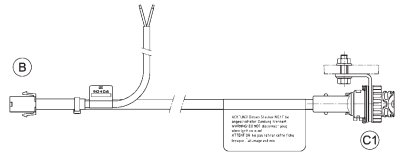

Fig. 3
- Extension cable (15m) with mounting flange, screws and plug (Fig. 3).